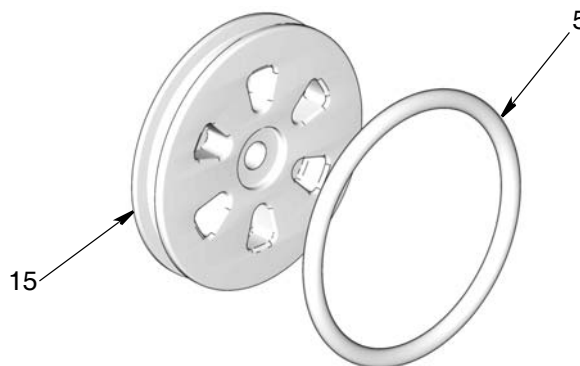

Fig. 26
2. Use a pick to remove the o-ring (5) installed around the circumference of the air piston (15) (Fig. 26). Grease the new o-ring included in the kit and install it around the air piston.